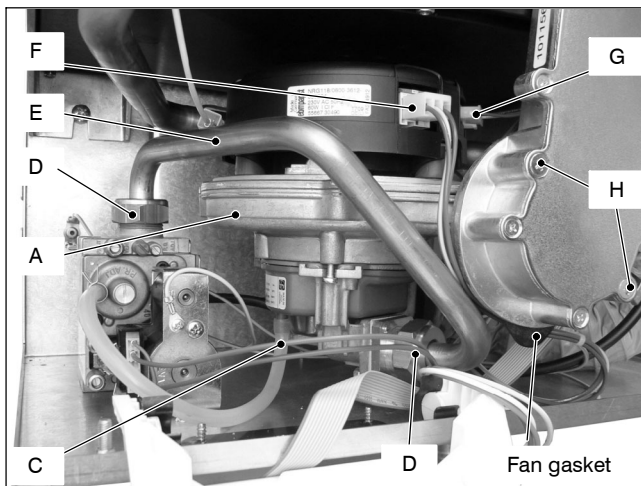

Fig. 10.2
- 3 Disconnect the rubber pipe *C* (Fig. 10.2).
Before reassembling ensure the fan gasket (Fig. 10.2) is correctly mounted.